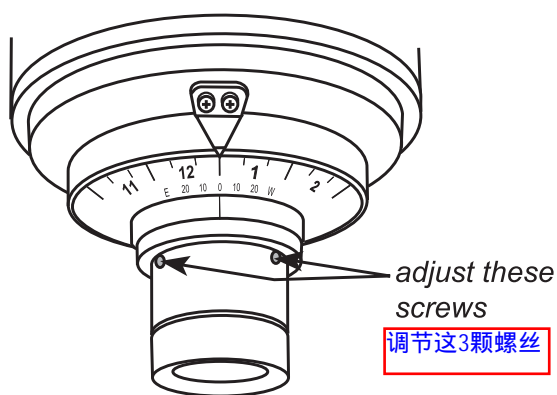
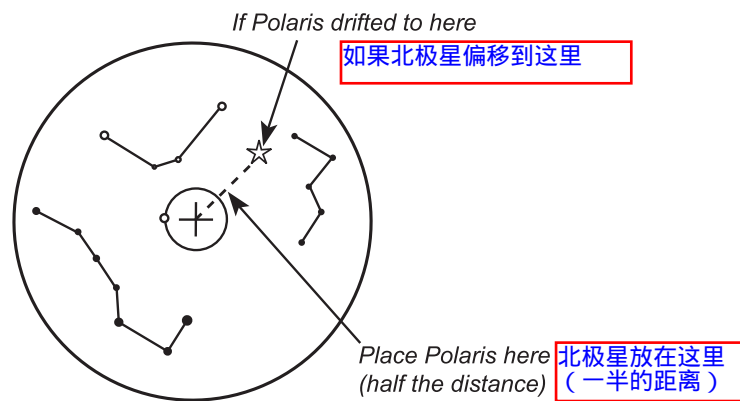

Fig. 3.4a
Fig. 3.4b
4. If the target deviated from the reticle, then use a 1.5mm Allen wrench to adjust the three small Allen screws on the polar scope (Fig. 3.4a) to eliminate the deviation to half. (Fig. 3.4b)
4. 如果目标在十字分划线上存在偏差，那么就用1.5mm六角扳手调节极轴镜上的3个小六角螺丝（图3.4a）以将偏差消除一半（图3.4b）。